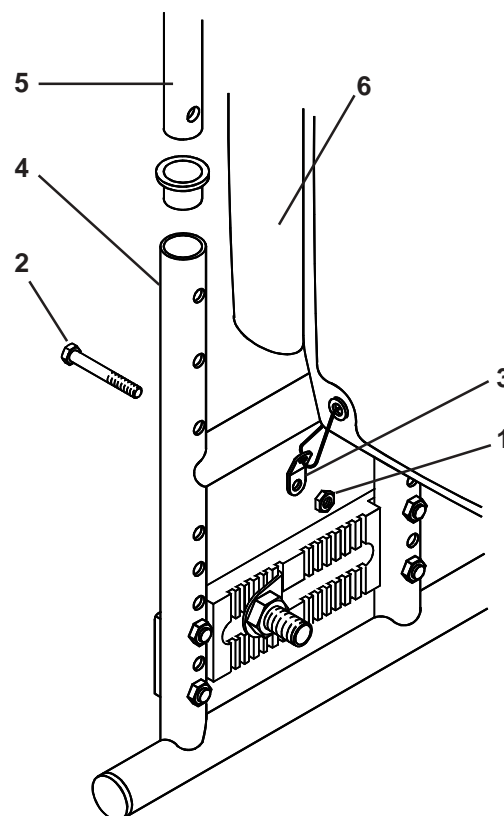

Fig. 53
To adjust the backrest height, first remove the upholstery (6), 10mm A/F backrest nuts (1), bolts (2), and upholstery tabs (3) on the rear frame tubes (4). Slide the backrest tubes (5) to the desired height. Replace the bolt, upholstery tab and nut (Fig. 53). Tighten to 8-10Nm torque.